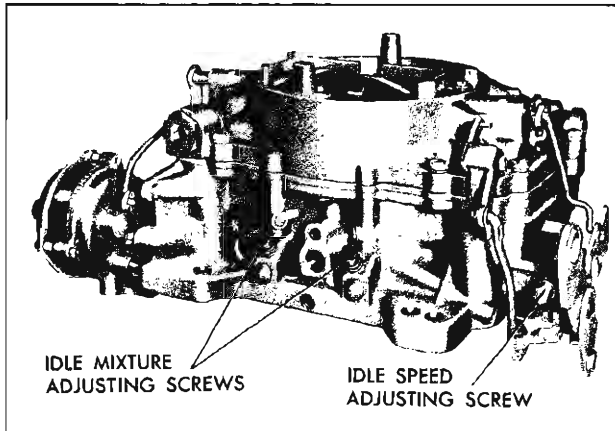

Fig. 24—Idle Speed and Mixture Adjustments
3. Adjust idle speed adjustment screw (fig. 24) to give proper idle speed shown in tune-up chart.